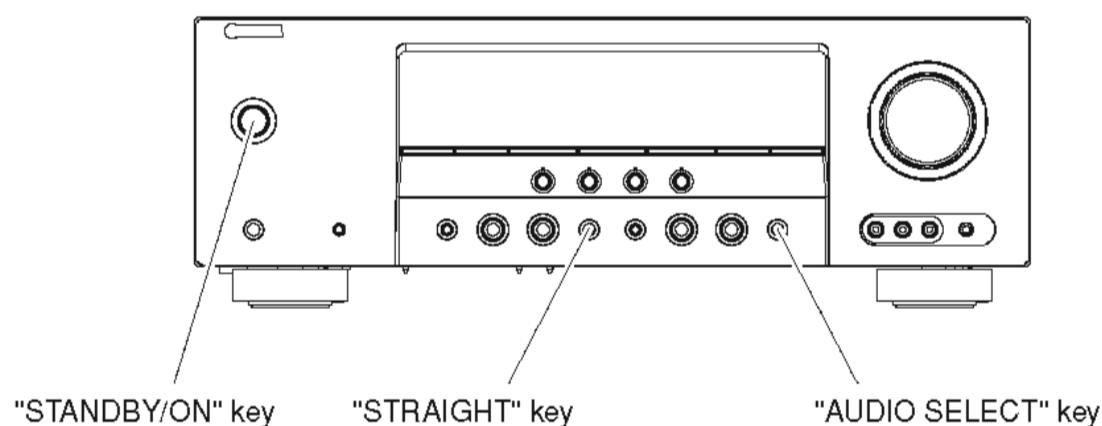

Fig. 4
2. Press the "STANDBY/ON" key while simultaneously pressing the "STRAIGHT" and "AUDIO SELECT" keys. (Fig. 4)
2. "STRAIGHT"キーと"AUDIO SELECT"キーを押しながら、"STANDBY/ON"キーを押し、ダイアグを起動します。(Fig. 4)